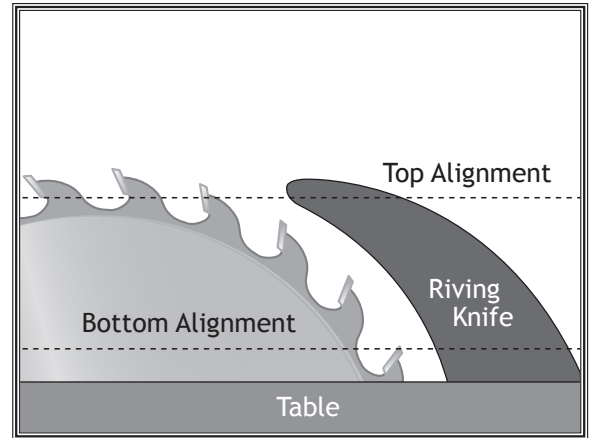
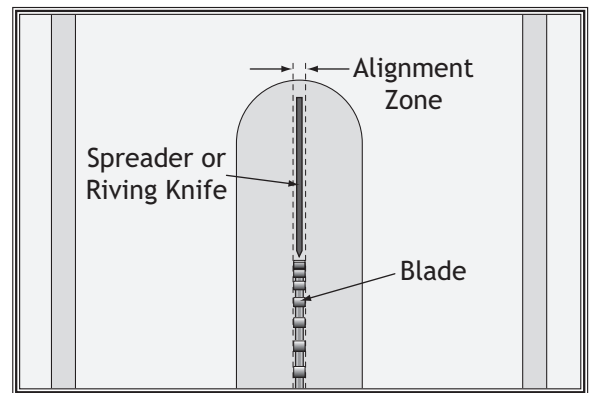

Figure 102. Checking top and bottom riving knife parallelism with blade.
Figure 103. Spreader/riving knife alignment zone.
3. Place the straightedge alternately against the top and bottom of blade and spreader/riving knife, as shown in **Figure 102**. The spreader/riving knife should be parallel with the blade along its length at both positions, and it should be in the "Alignment Zone," as shown in **Figure 103**.